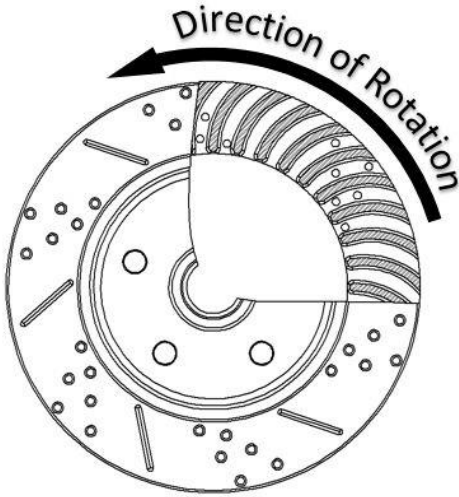

Figure 2 – Direction of Rotor Rotation
14. Slide the rotor onto the spindle. The inner wheel bearing and grease seal should be installed at this point. With the rotor fully pushed onto the spindle, install the outer wheel bearing followed by the keyed washer and the spindle nut. When tightening the spindle nut, tighten to 5-10 ft/lbs. Loosen the nut and tighten again using the same 5-10 ft/lbs. Do this a couple of times spinning the rotor to fully seat the wheel bearings onto the spindle. Loosen the nut a final time and re-tighten to move all play. Tighten approximately an additional 1/16th of a turn to give the appropriate pre-load and line up the cotter pin hole. Install the spindle nut retainer and the cotter pin to secure followed by the grease cap. Refer to Figures 2 and 3 on the next page for reference.